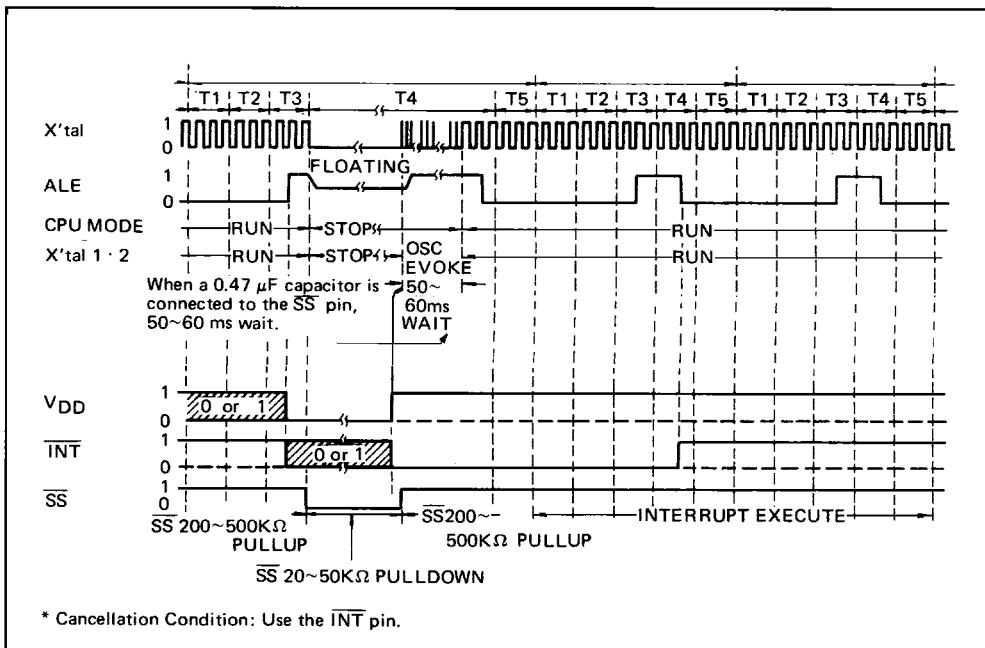
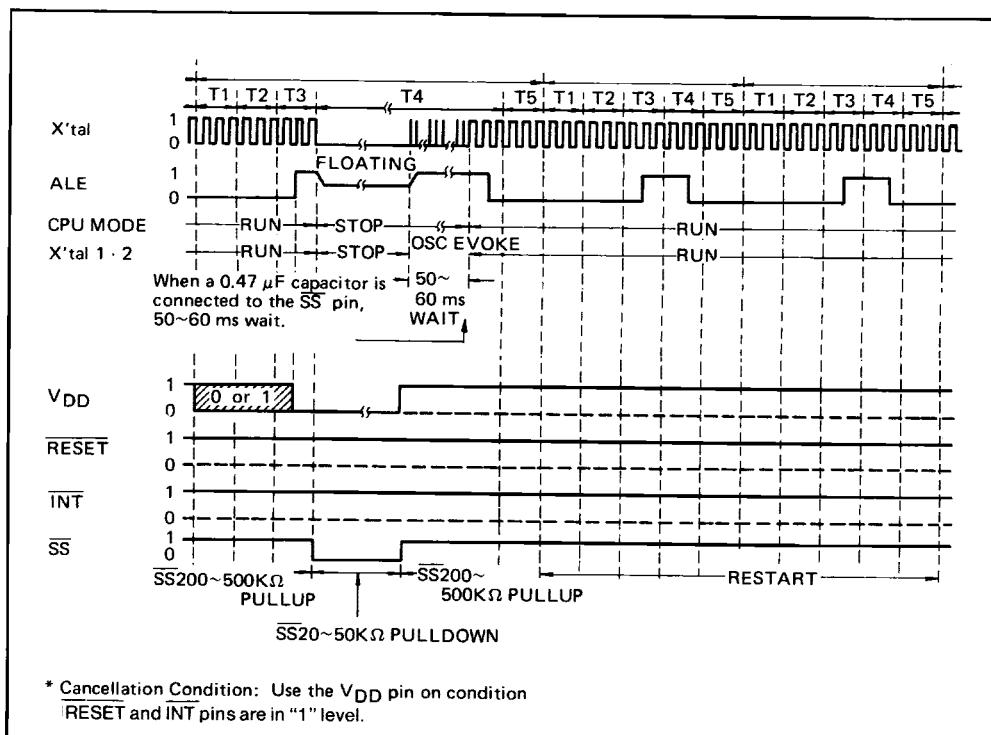

Fig. 4-6 Hardware Power-Down Mode Timing Chart
Fig. 4-7 Hardware Power-Down Mode Timing Chart
However, if the power-down mode is started during an interrupt processing routine, execution will be continued on the next instruction after the present instruction. The timing chart is outlined in Fig. 4-6.
- (3) Use of the INT pin during external interrupt disabled mode (i.e. following execution of DIS I instruction or hardware reset)
- The clock generator is activated and the CPU started up when a "1" level is applied to the VDD pin while a "0" level is applied to the INT pin. If this "0" level is maintained until at least 2 ALE output signals occur, execution is continued on the next instruction after the present instruction. The timing chart is outlined in Fig. 4-6.
- (4) Use of VDD pin only
- The clock generator is activated and the CPU started up when a "1" level is applied to the VDD pin while a "1" level is also applied to both the RESET and INT pins. In this case, execution is resumed from the stopped position. The timing chart is outlined in Fig. 4-7.